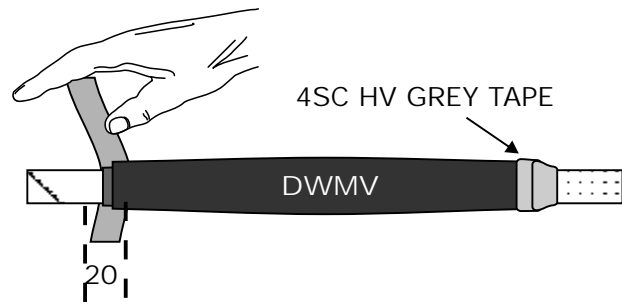

FIG 9
12. Take the two pieces of 4SC HV Grey Mastic Tape and apply whilst stretching to the ends of the DWMV Tubes and Copper Tape Screen (Xlpe) and Paper Screen by approx 10mm each as shown in Fig 9.